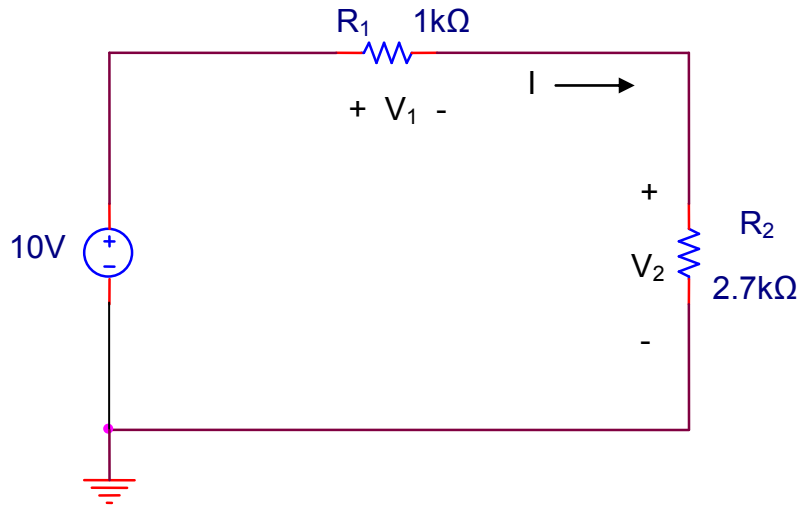

Figure 3.5
2. Assume that the two resistors of problem 1 are used in the circuit of Figure 3.5. Calculate v_1 , v_2 , and I when R_1 and R_2 take on their minimum and maximum values and enter in Table 3.2.
2. Construct the circuit in Figure 3.5. Measure V_1 and V_2 using the DMM only. Calculate I from your measurements. What is the % error as compared to their nominal values? Enter your results in Table 3.3.